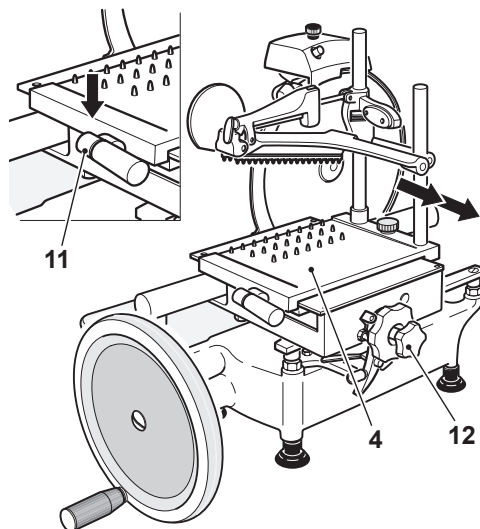

Figure 9-2
2. Turn the product holder operating handwheel (12) clockwise or gently press down on the fast forward lever (11) to move the product holder (4) away from the knife (Figure 9-2).